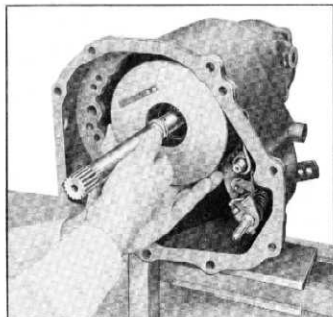

Fig. 131—Installing Unit Assembly into Case
16. Install unit assembly into case indexing input shaft pilot with pilot in output shaft and low sun gear with short pinions in planet carrier (fig. 131).